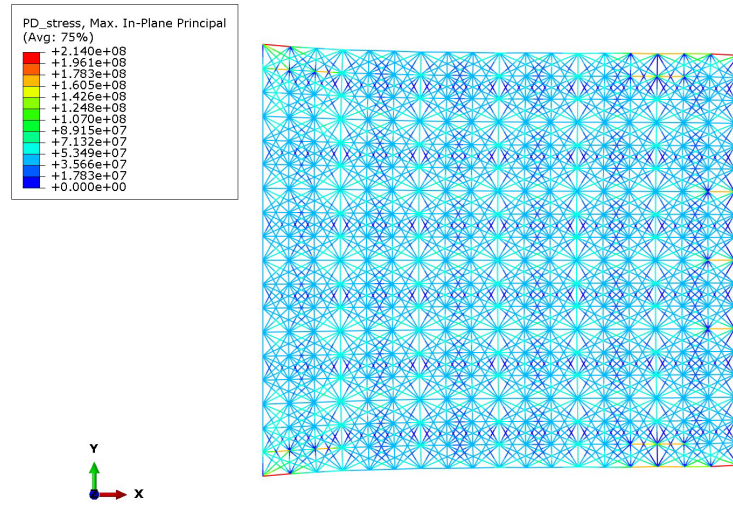

Figure 4: PD stress contour map
- PD Stress Contour Map: Displays the mapped peridynamic stress field computed from the bond stretch values using the strain mapping procedure a sample example of the output is shown in figure 4.